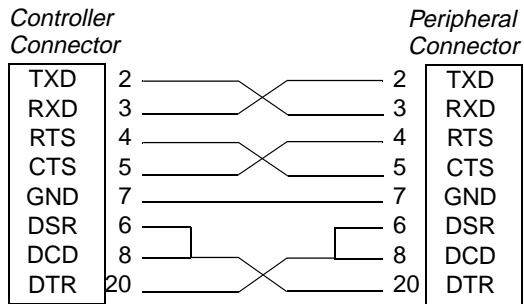

FIGURE 8. Asynchronous Null Modem Cable (RTS Handshaking)
- RTS supports hardware handshaking when the peripheral uses the *Request To Send* (pin 4) signal (see Figure 8).